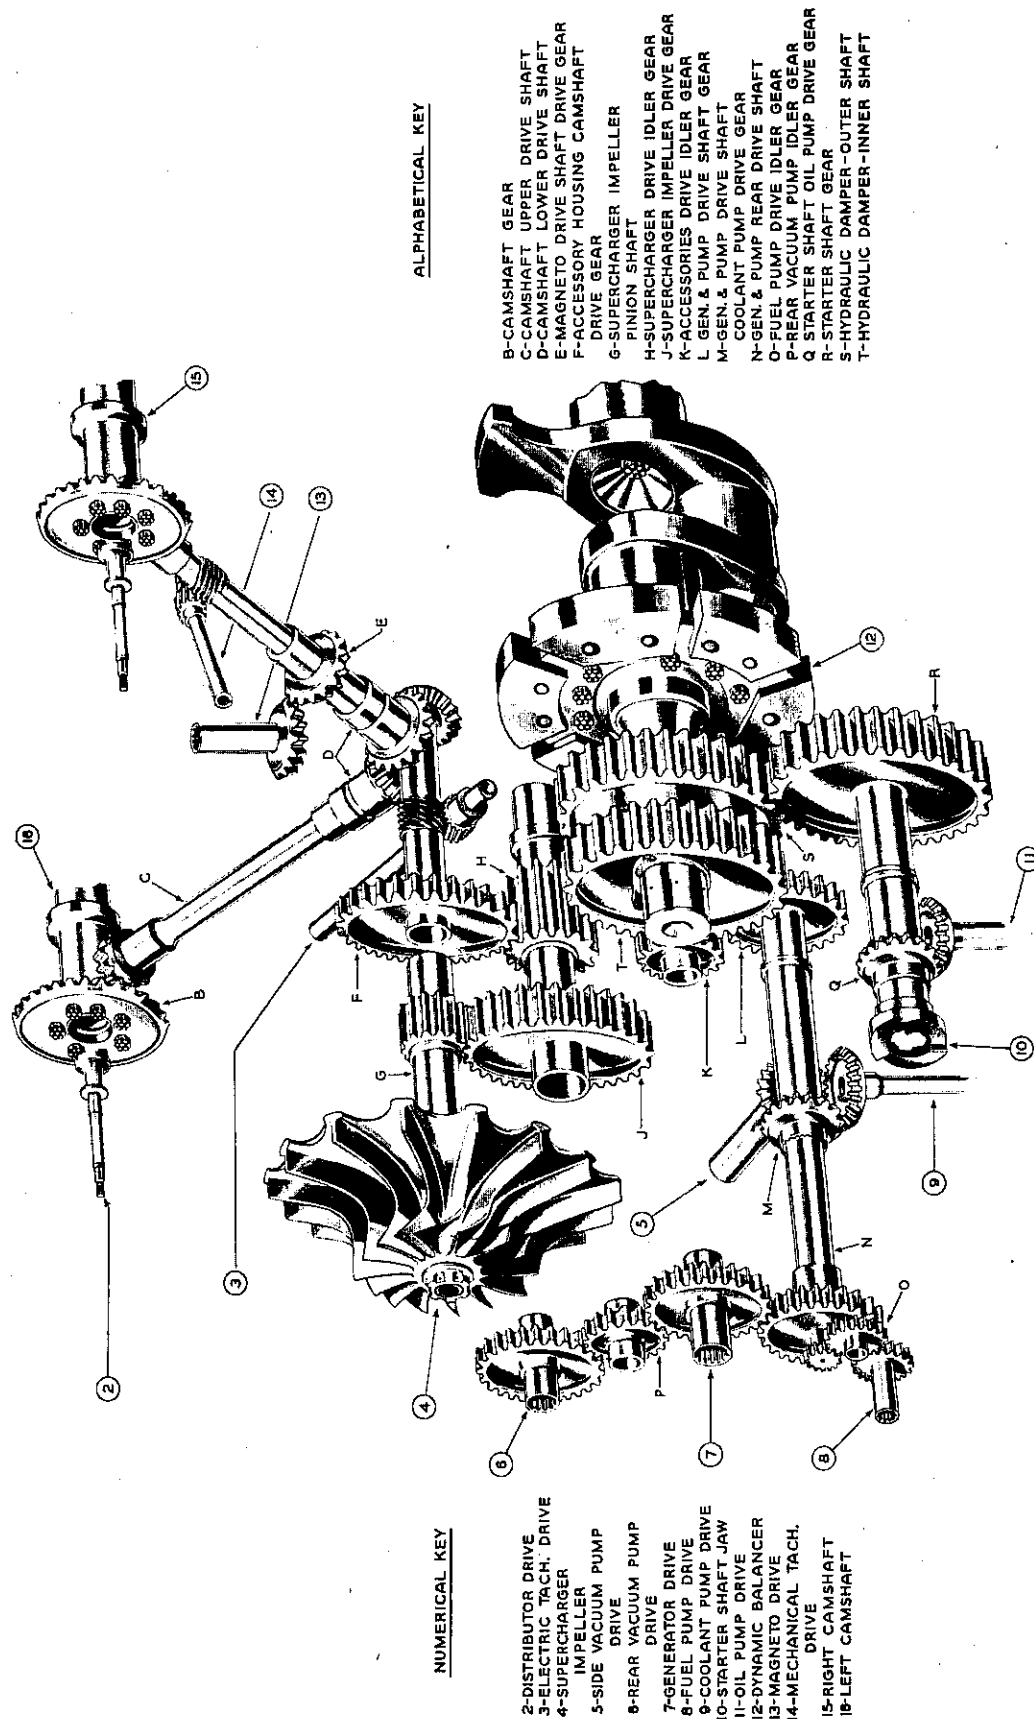

Figure 24—Gear Train Diagram for R.H. Prop. Rotation Engines without Gun Synchronizer Drives.
(1) All accessories, with the exception of the propeller governor drive and the front oil pump, are mounted on the rear of the engine. A cast magnesium alloy accessories housing is stud mounted on the rear face of the crankcase and contains the supercharger and drives for the starter, oil pump, camshaft drive, fuel pump, generator, vacuum pump, two tachometers, magneto, and the coolant pump. Gear train diagrams are shown in Figures 24, 25 and 26.
(2) All accessories drives except the starter and oil pump are taken through a hydraulic vibration damper. The starter drive is taken off the rigid outer member of the damper, and is unaffected by damper operation. The oil pump is driven through bevel gears from the starter shaft. The outer member of the hydraulic damper is splined to the hub of the dynamic balancer, on the rear of the crankshaft. An inner member is connected to the outer rigid member by a flexible quill shaft, and reacts against the outer member through a hydraulic medium to minimize single node low frequency torsional vibration.
(3) One spur gear train from the flexible member of the vibration damper drives the accessory housing camshaft drive mechanism and the supercharger. In